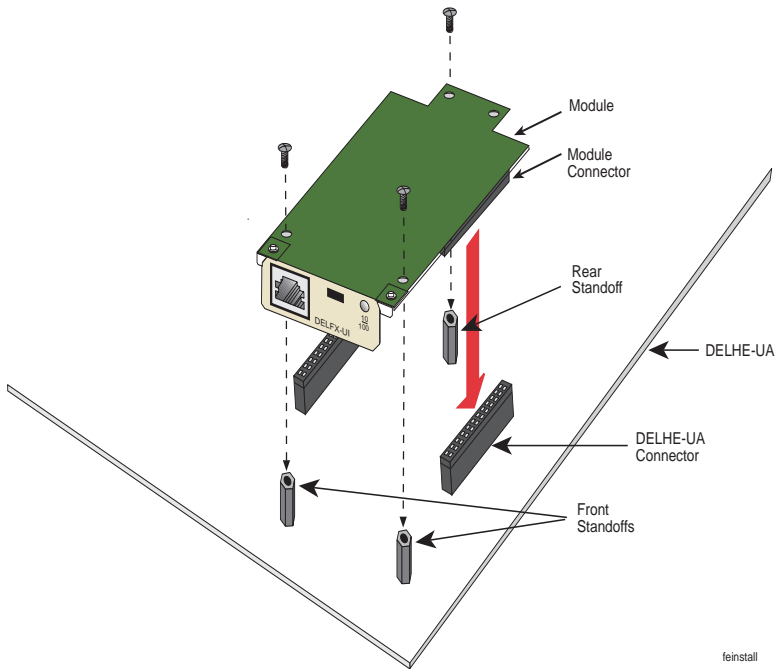

Figure 2-2 Installing the FEPIM
2. Refer to Figure 2-2. Gently pull the faceplate of the DELHE-UA forward to allow room for the FEPIM to be aligned over the connector.
3. Align the FEPIM connector into the DELHE-UA connector pins. See Figure 2-2.
5. Secure the FEPIM using the screws enclosed in the FEPIM packaging. The screw used to attach the rear of the FEPIM to the standoff is optional and not necessary for proper installation. Refer to Figure 2-2.